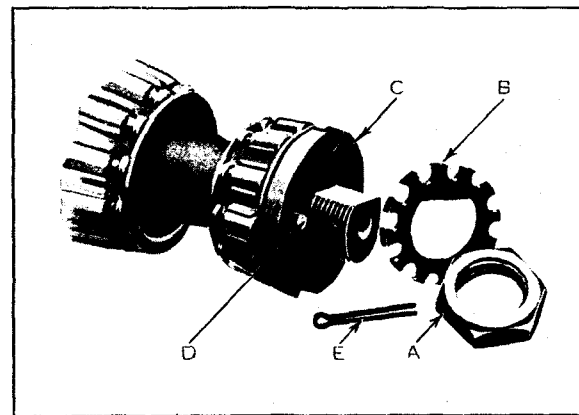

Fig. 27. Front Wheel Bearings and Adjusting Nuts.
- Remove the lock nut "A," Fig. 27.